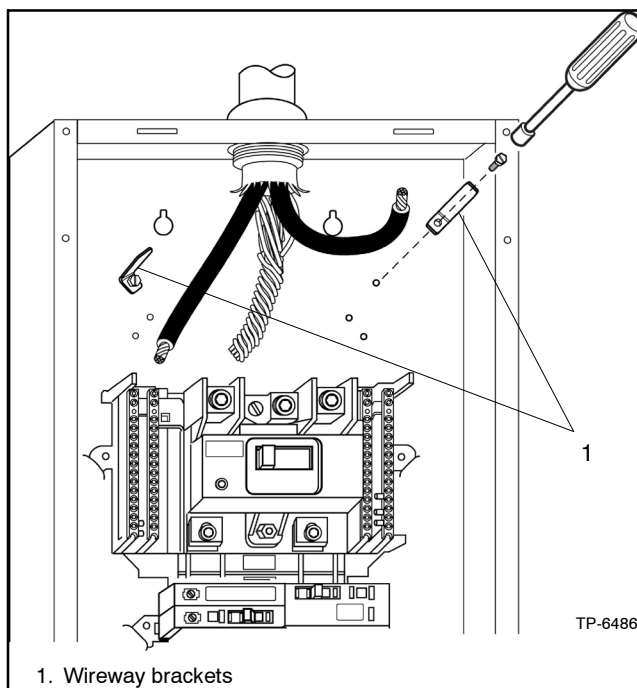
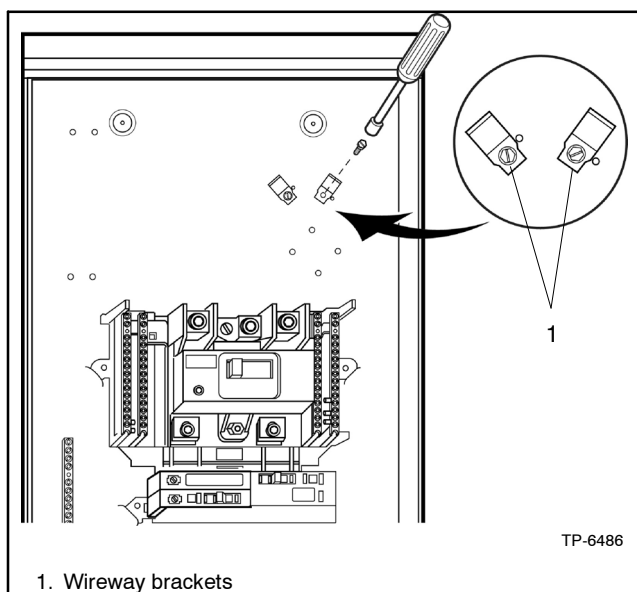

Figure 2-7 Installing Wireway Brackets, Type 1 Enclosures
Figure 2-8 Installing Wireway Brackets, Type 3R Enclosures
- Before tightening the screws, orient the brackets to a 45° angle. Locating dimples are provided on the back plate of the enclosure as a guide. Refer to Figure 2-7 for Type 1 enclosures and Figure 2-8 for Type 3R enclosures.